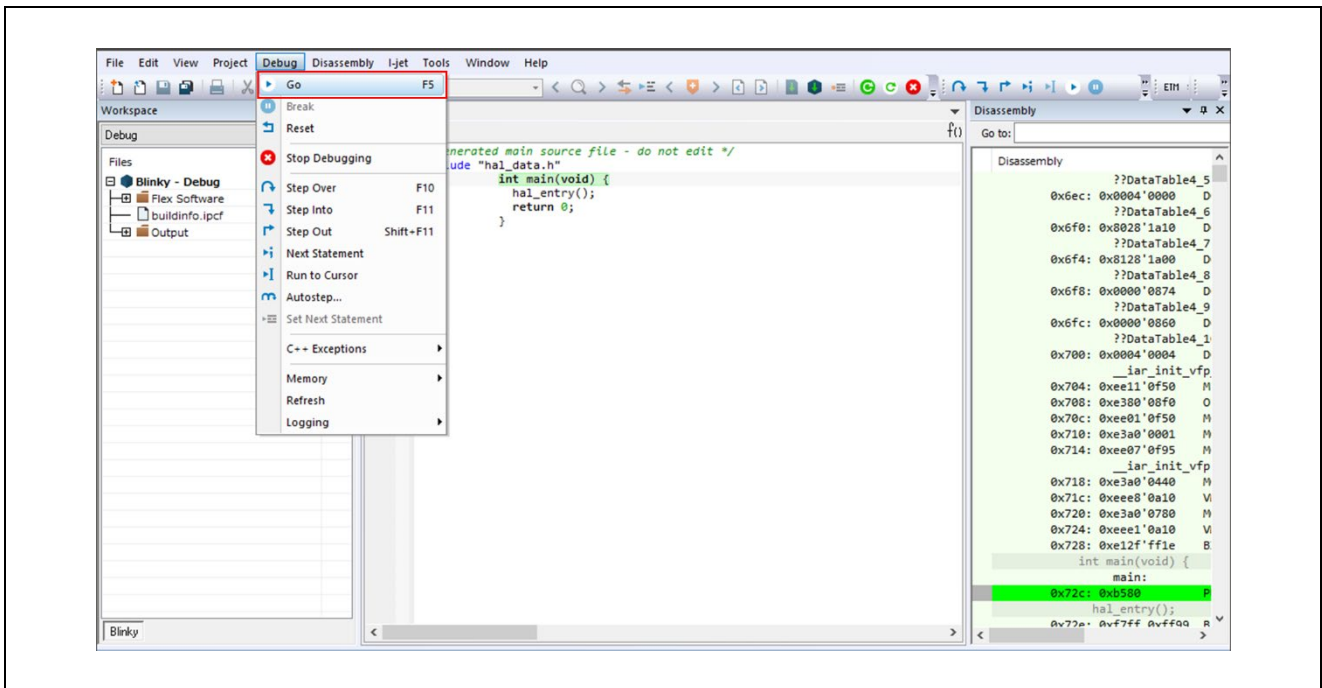

Figure 74 : Go Button
5. Run the program of primary project as shown in Figure 74 to copy the binaries of the secondary and subsequent projects to the internal RAM in the primary project. After the primary project reaches `hal_entry` in `main.c`, another core is executed. If the LEDs are blinking, proceed to the next step.